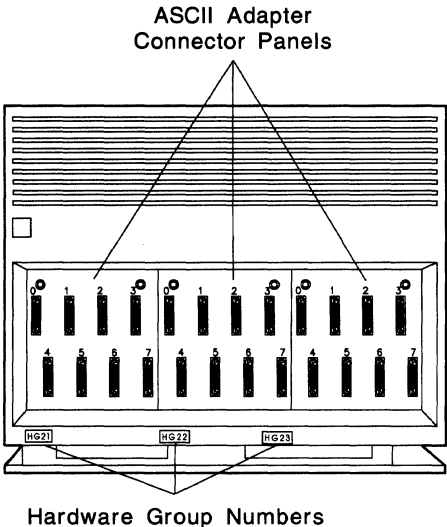
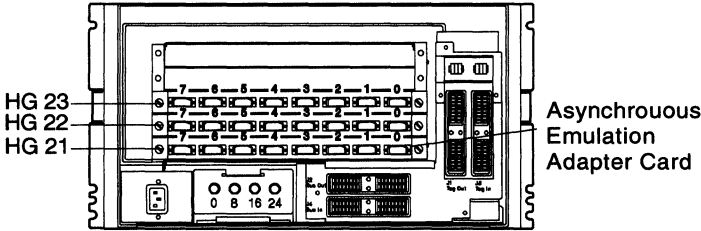
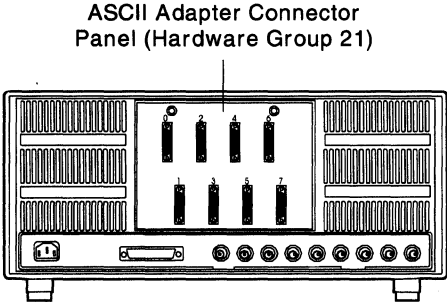

Figure 2-55. Rear View of Models 1L through 14R
Figure 2-56. Rear View of Models 21H through 24R (Model 21L Shown)
Figure 2-57. Rear View of Models 51R, 52R, 61R, 62R, 63R, and 64R (Model 51R Shown)
Figure 2-55 on page 2-65 through Figure 2-57 on page 2-65 are provided as support information for this procedure.
**Step 2** See Figure 2-55, Figure 2-56 on page 2-65, and Figure 2-57 on page 2-65 for locations. Perform the AEA port wrap test as follows: